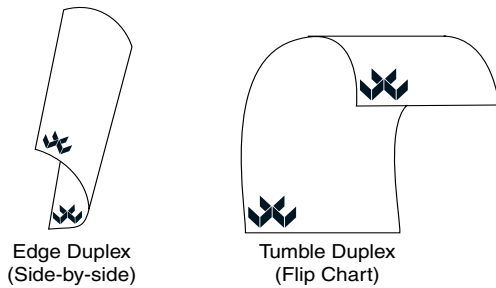

Fig. 4.8 Edge and Tumble Duplexing
- **Edge-duplex** double-sided printing in edge to edge or book style (fig. 4.8).
- **Tumble-duplex** double-sided printing in a flip chart style (fig. 4.8).